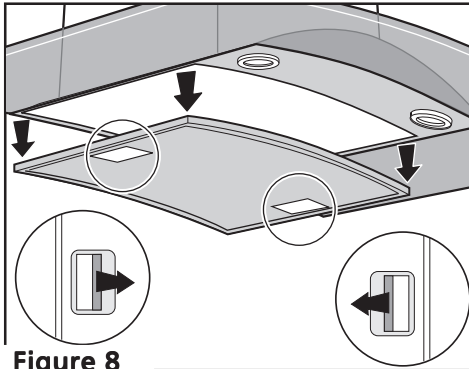

Figure 8
- Push each handle towards the center and pull downwards Figure 8.